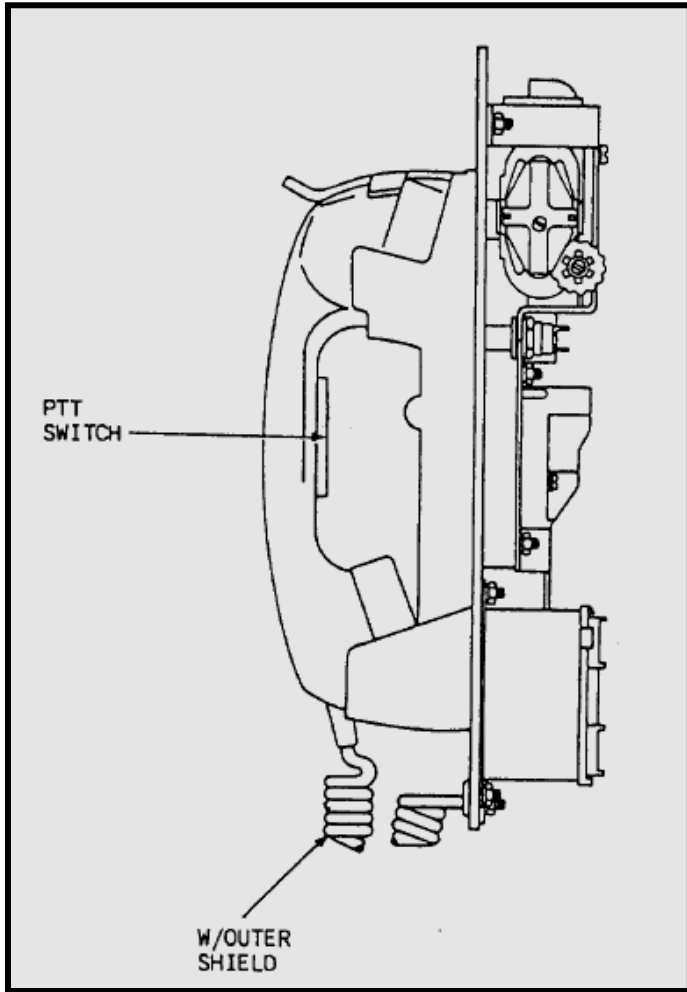
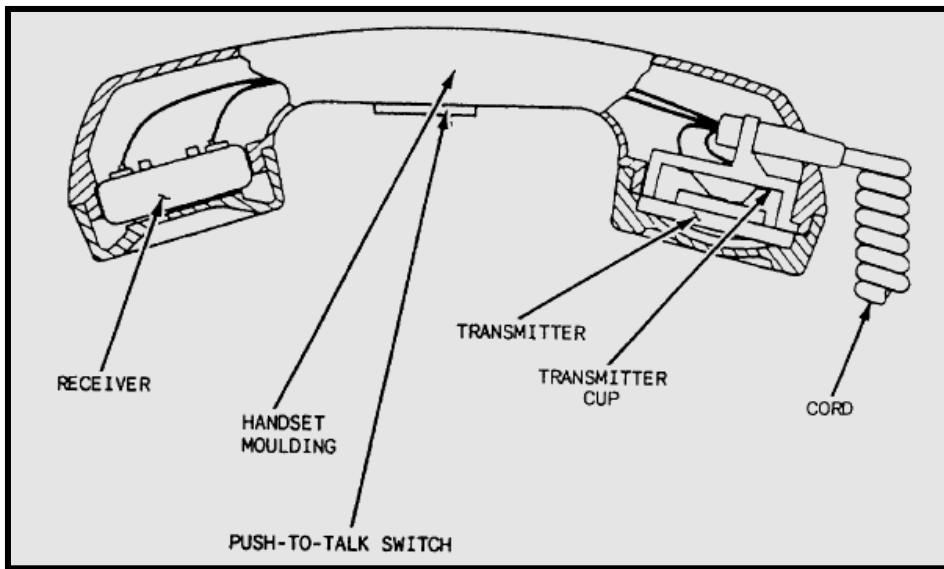

Figure 6-6.—Basic type G (R) restricted telephone set.
Figure 6-7.—Handset and cord assembly of the type G (R) set.
Figure 6-6 illustrates a basic type G (R) telephone set. This set will fit the same enclosures as the basic type G nonrestricted set. Figure 6-7 illustrates a handset and cord assembly for the type G (R) set.